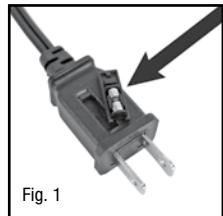
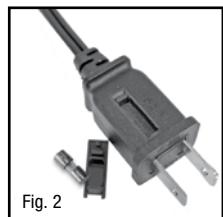

Fig. 1
Fig. 2
- If your fan loses power and you suspect that the fuse on your fan has blown, you should first remove the spare fuse holder attached to the cord plug (Fig. 1). Remove the spare fuse from the plastic spare fuse holder, and set the spare fuse aside (Fig. 2).
- Line up the left and right pedestal assembly and firmly snap together (Fig. 1).
- Align the two portions of the circular base and snap together by gently pushing the 4 extrusions (Fig. 2, Item A) into the adjacent circles of the connecting piece (Fig. 2, Item B).